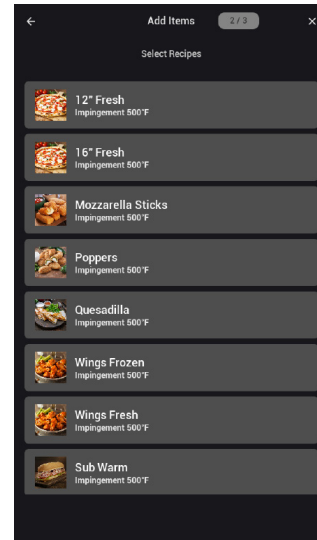

Figure 18: Select Group Image
4. Select an image and touch the blue “Save” button (Figure 18, below).